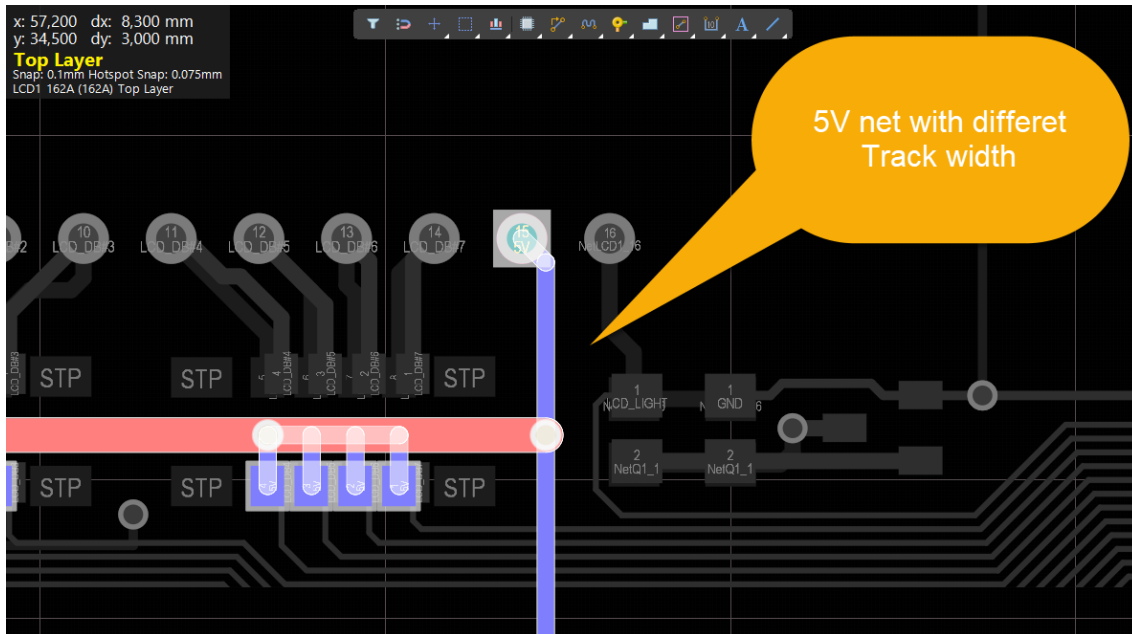

Figure 26. 5V net between RA3 and R2 with different track width
- Zoom to that area to see the different track width for the 5V net, as shown in Figure 26.